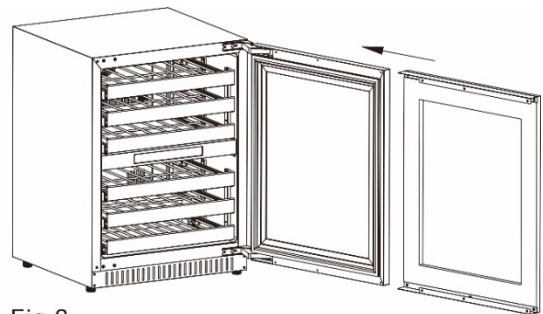

Fig.2
5. Push the installed wooden panel, in the direction of the door. (Fig.2)